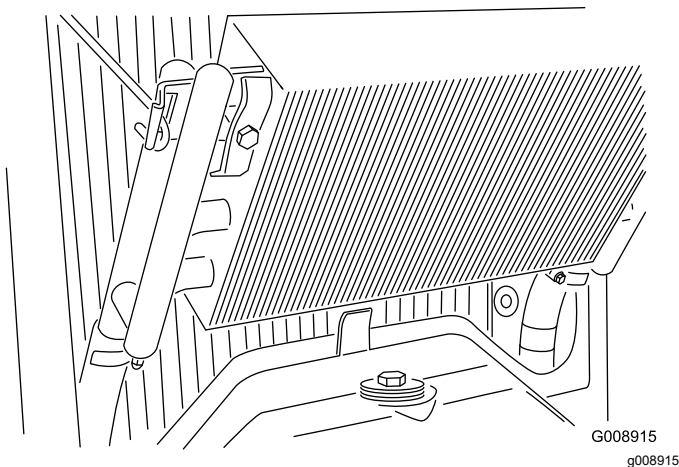

Figure 59
3. Unlatch the oil cooler and pivot it rearward (Figure 59). Clean both sides of the oil cooler and radiator area thoroughly with water or compressed air. Pivot the oil cooler back into position.